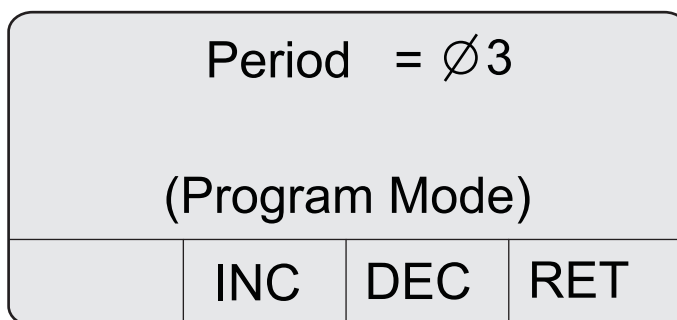

Figure 21 Period screen
5. Press **4 (RET)** to display the Period screen in the Program mode (refer to Figure 21 on page 26).